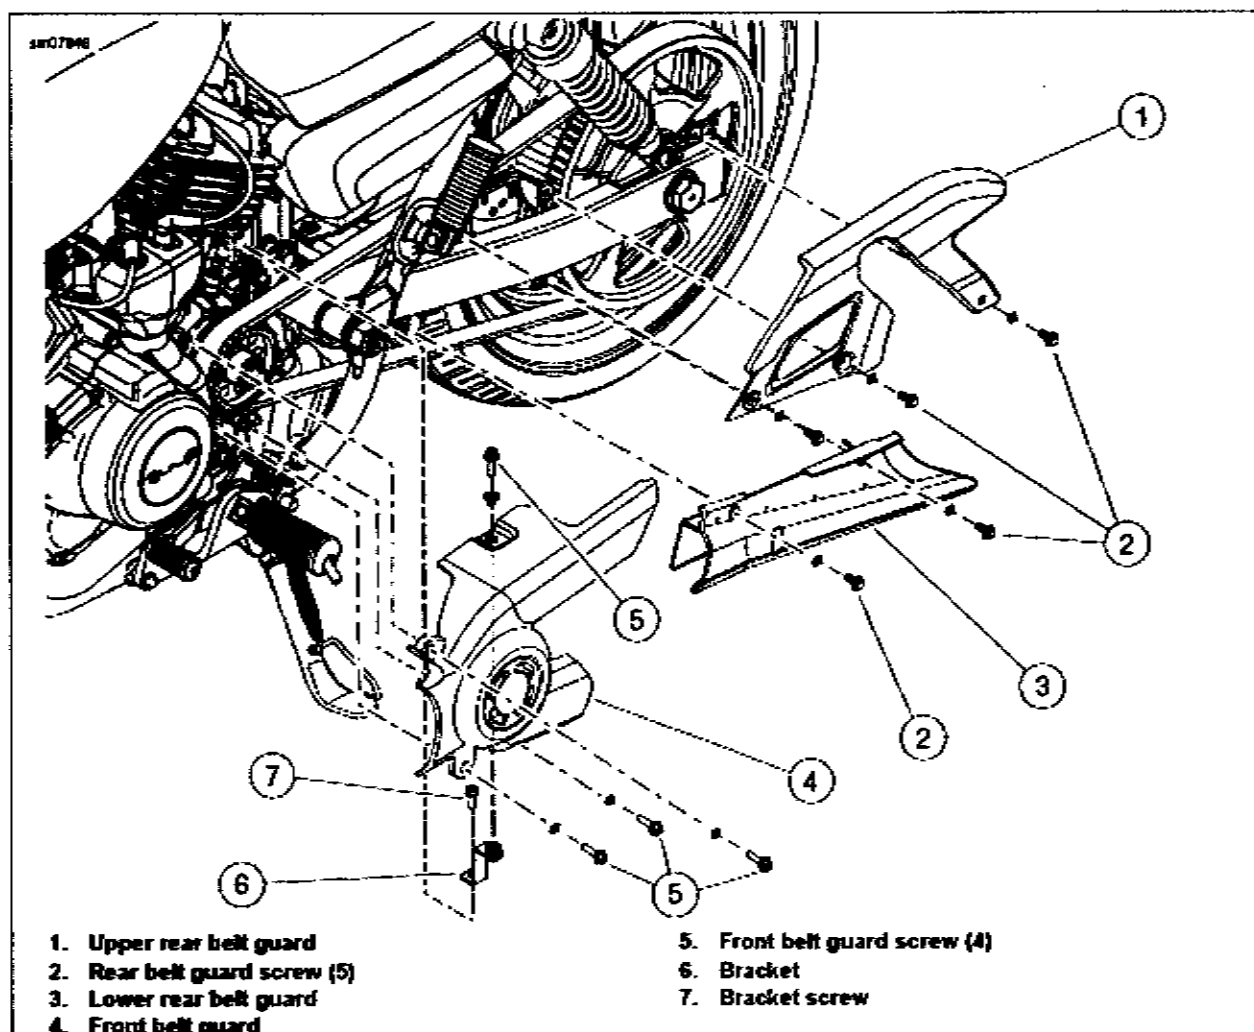

Figure 3-46. Belt Guards
1. See Figure 3-46. Remove front belt guard.
- a. Remove front belt guard screws (5).
- b. Remove front belt guard (4).
2. Remove screw (7) and bracket (6), if necessary.
1. See Figure 3-46. Install bracket, if removed.
- a. Position bracket (6).
- b. Install bracket screw (7). Tighten to **10-12 N·m (7-9 ft·lb)**.
- a. Position front belt guard (4).
- b. Install screws (5). Tighten to **10-12 N·m (7-9 ft·lb)**.